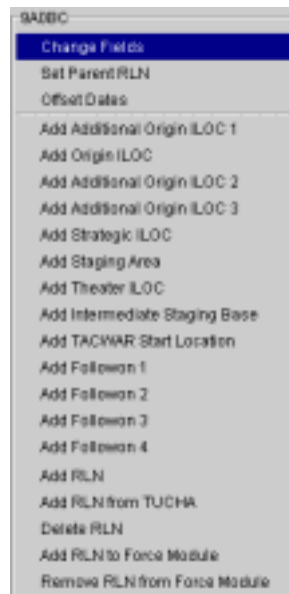

Figure 5.74 RLN Commands
3. Right-click the name of an RLN (e.g., 9A0BC). A menu of RLN commands opens (Figure 5.74), and the Change Fields command is highlighted.